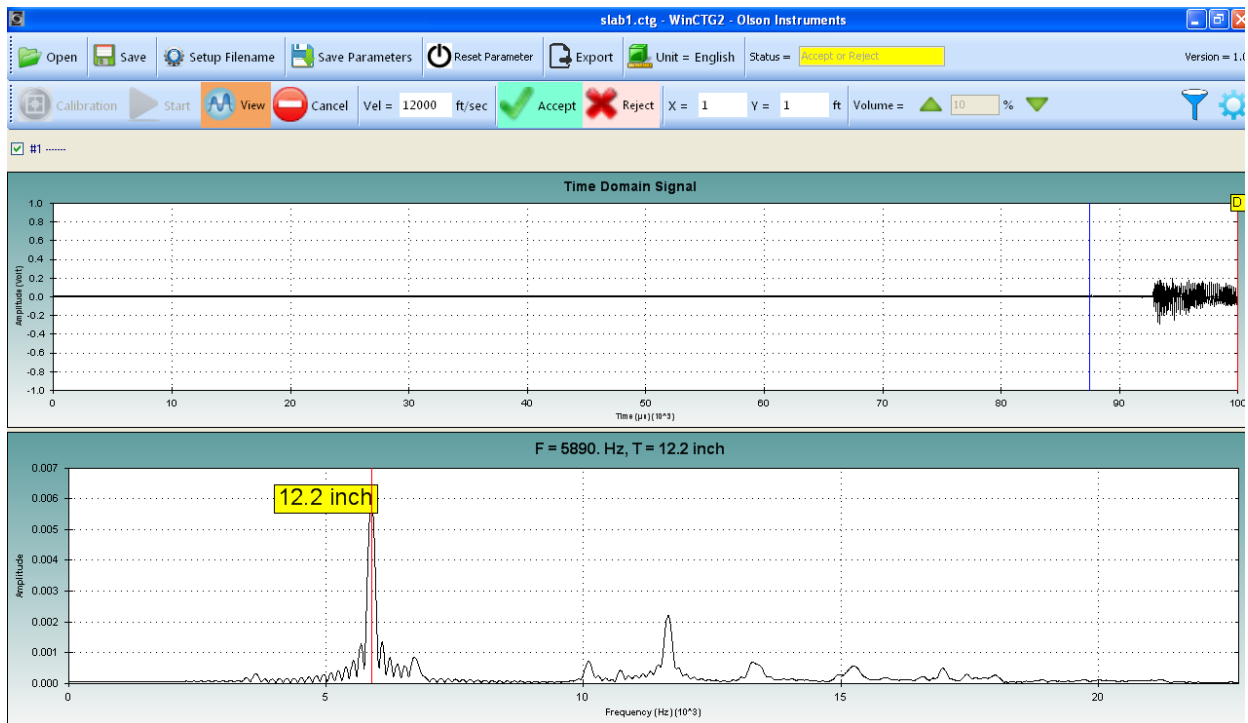
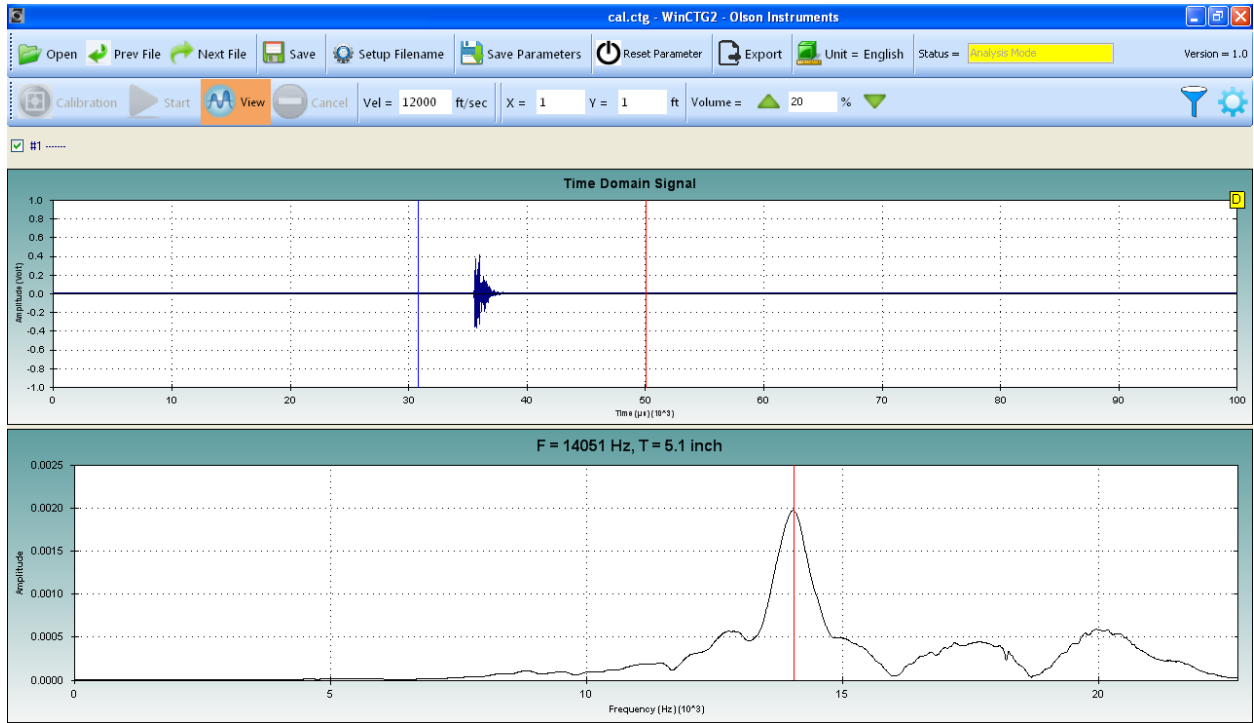

Figure 6 – Data Displayed with Thickness Reported above the Frequency Spectrum Plot
Figure 7A – Example of Good Data and a Single Prominent Peak in the Frequency Spectrum
- With the IE head powered up and the green light on the top of the handle illuminated, press the trigger button on the underside of the handle. The unit will fire the solenoid on the CTG-2 head and create an impact. The displacement transducer sensor on the CTG-2 head will record the data and the software will display the data on the screen as shown in Figure 6 below. The program is now waiting for you to either accept or reject the data as reported in the “Status” field which is currently in “Accept or Reject” mode.
- Good data can be identified by a waveform signal in the Time Domain (top plot) that ranges from 0.1 volt to 0.8 volt AND the presence of a prominent peak in the Frequency Spectrum (bottom plot). (In Figure 6 above, the data was collected on a 6" x 12" cylinder so there are additional resonant peaks displayed in the data.) The following Figures 7A through 7D, demonstrate both acceptable and unacceptable data. It is recommended to verify repeatability of results by taking at least two tests at the same location.